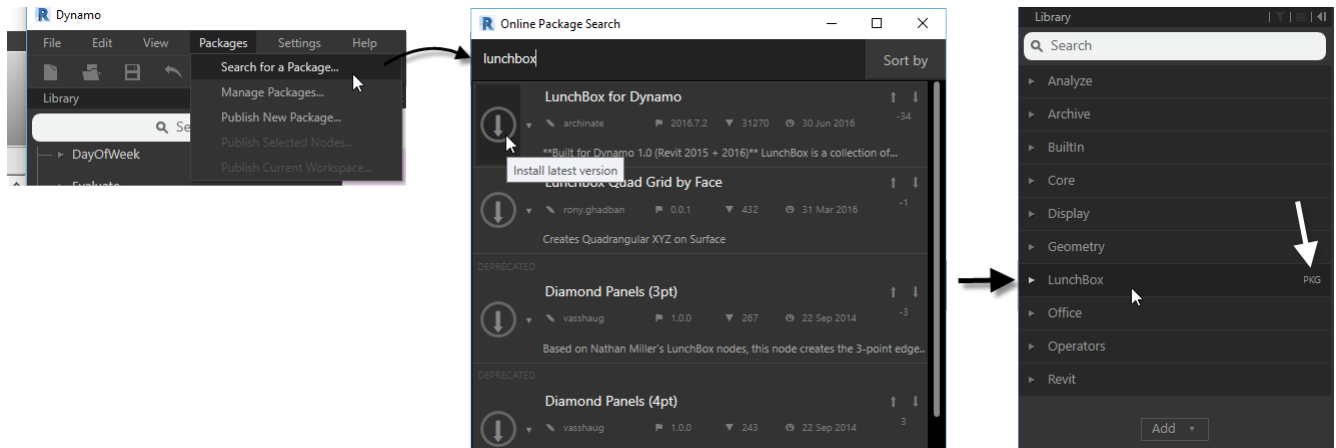

Figure 45
2. Launch Dynamo and then from the Packages menu and choose: **Search for a Package** (see the left side of Figure 45).
4. When LunchBox for Dynamo appears, click the arrow icon on the left to download and install it (see the middle of Figure 45).
Once installation is complete, you will see a new branch for LunchBox in your library panel. If you hover over the name, the letters PKG will appear to the right of the name. This indicates that it is a Package (see the right side of Figure 45).